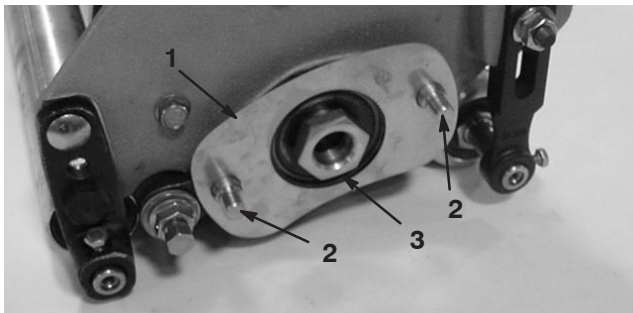

Figure 4
- 1. Bearing housing bolt (2)
7. Apply Loctite to the threads of each plow bolt. Thread a sideplate adapter onto each bolt (Fig. 4).
8. Insert the shim onto the sideplate adapters positioning as shown in figure 4.
9. Remove the reel bearing locknut from the reel shaft (Fig. 4).